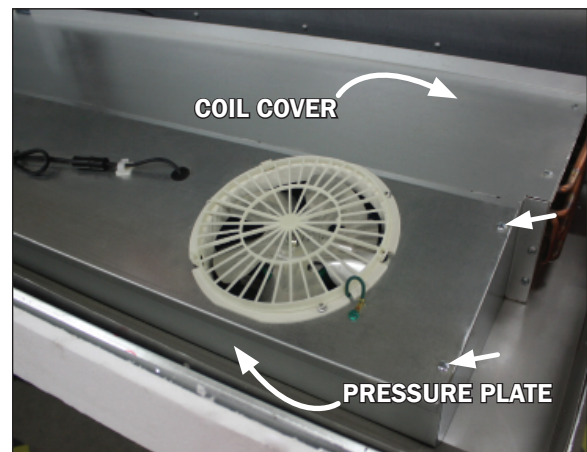
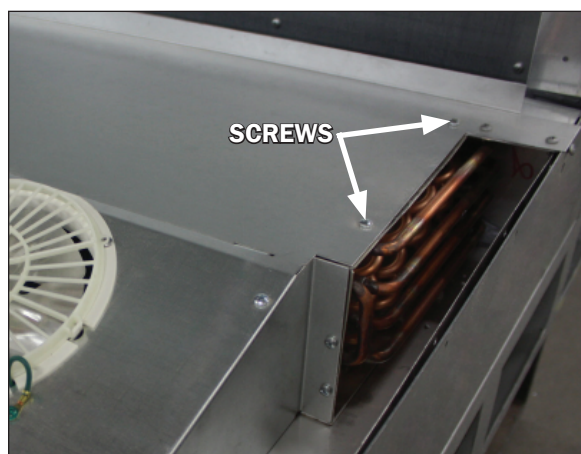

Fig. 18 Pressure plate, screw locations and coil cover (topside)
Fig. 21 Coil cover removal
2. To access the underside of the fans first remove the screws on the top ends and front sill of the pressure plate cover (Fig. 18). Lift the pressure plate by use of the
2. Remove the top two screws at both ends of the coil cover (Fig. 21), as well as the screws from the top ends and front sill of the pressure plate cover (Fig. 18). **Be sure to save the removed screws for reassembly.**